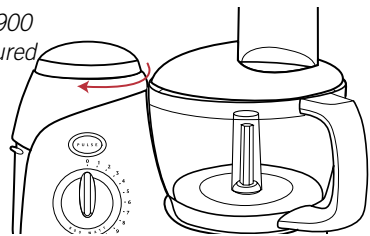

Fig 17
1. Remove the safety cover from the food processor body. Simply twist the safety cover clockwise and remove, see Figure 17.